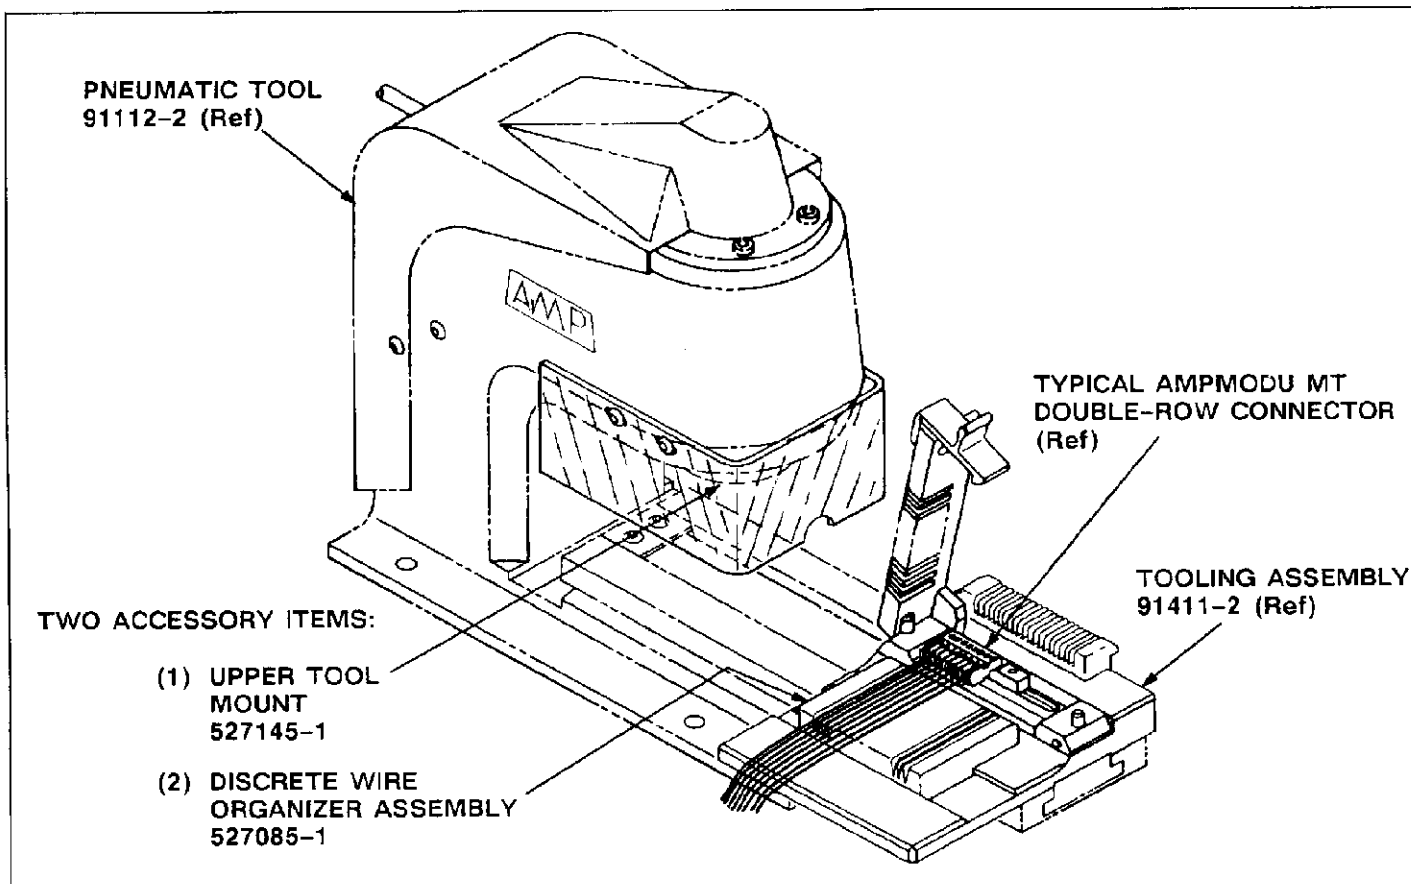

Fig. 1
**2. DESCRIPTION (Figure 1)**
AMP accessory tooling shown in Figures 1 and 4 was inspected prior to shipment. AMP recommends that the tooling be inspected immediately upon its arrival at your facility, and at regularly scheduled intervals, to ensure that it has not been damaged during handling and use.